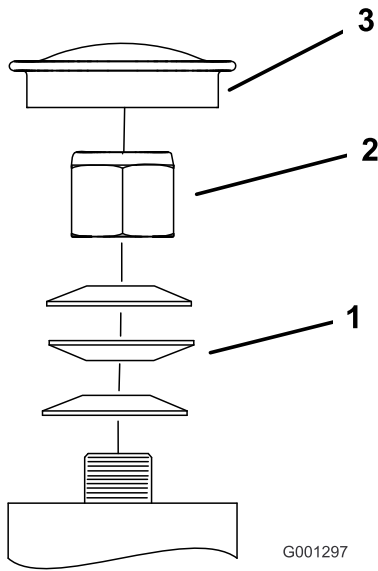

Figure 86
3. Remove the dust cap from caster and tighten the locknut (Figure 86).
4. Tighten the locknut until the spring washers are flat, and then back off a 1/4 turn to properly set the preload on the bearings (Figure 86).
Important: Make sure that the spring washers are installed correctly as shown in Figure 86.
5. Install the dust cap (Figure 86).